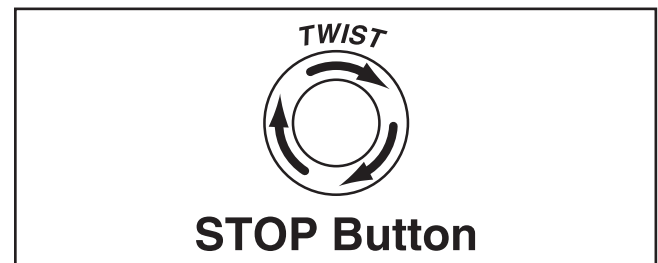

Figure 39. Resetting the switch.
6. Twist Emergency Stop button clockwise until it springs out (see **Figure 39**). This resets switch so machine can start.